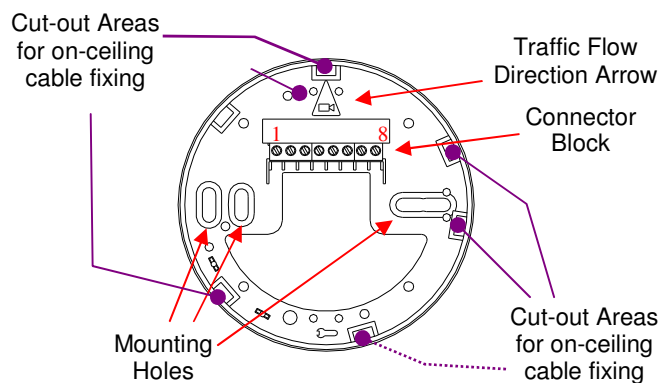

Figure 4
- 2.2 Select a suitable location for mounting the counter base. Refer to the 'IPU 40082 Tailgate Detector Installation Guide' for details of recommended locations. Ensure 'Traffic Flow Direction Arrow' is pointing in the direction of traffic flow into secure area (Figure 4).
- 2.3 Install base using mounting holes provided (see Figure 4). Ensure that cable runs do not interfere with the IWC2044 Setup Module. (see Figure 4); dotted lines show cut-out areas that should not be used in this case).